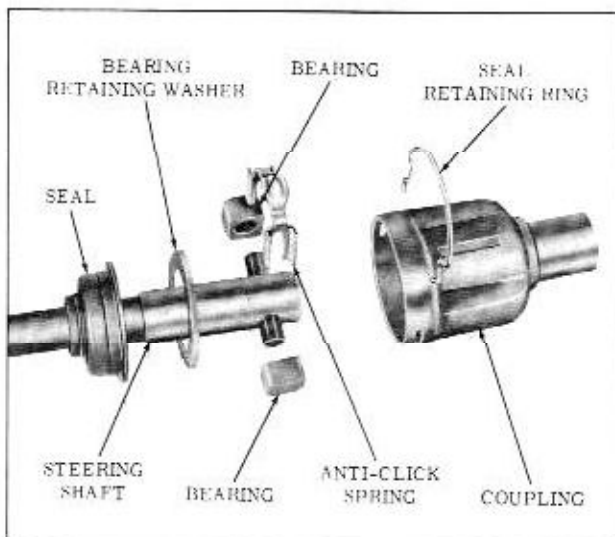

Fig. 4-11 Coupling Assembly
2. Position the steel washer on the steering shaft above the pivot bearings. (Fig. 4-11) Install the ball pivot bearings and the anti-click spring and retain with grease.